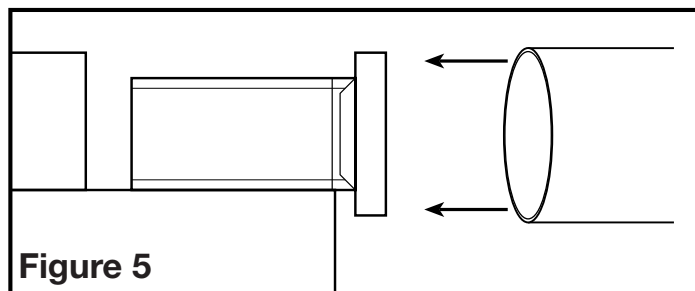

Figure 5
- Remove any tape that might be holding the damper in place during shipping and connect the ducting to the fan's duct collar (Figure 5). Secure in place using tape or screw clamp. Always duct the fan to the outside through a wall or roof cap.